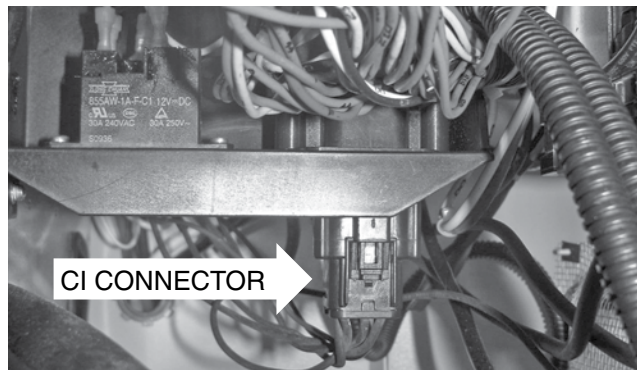

Figure 66. C1 Connector (if unit is equipped)
7. Disconnect the lower bulkhead C1 connector (if unit is equipped.) (Figure 66).